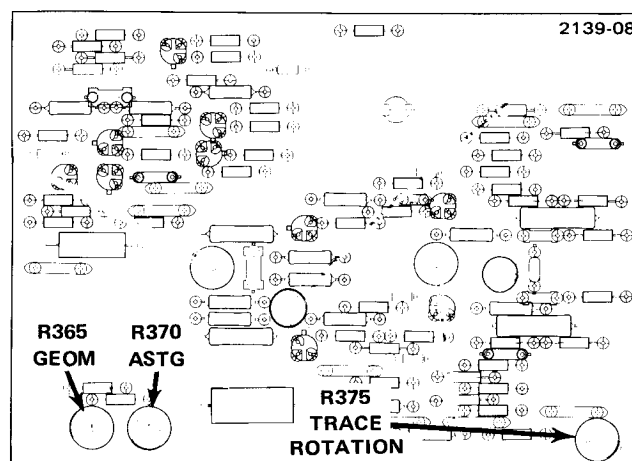

Fig. 5-3. Location of Geom, Astig, and Trace Rotation adjustments (Horizontal circuit board).
- ADJUST—Astig R370 and FOCUS control together, to obtain the best defined spot display. See Fig. 5-3 for adjustment location.
- ADJUST—ROTATION (Trace) R375 to align the trace with the center horizontal graticule line. See Fig. 5-3 for adjustment location.
f. ADJUST—Geom R365 for minimum bowing or tilt of the trace display at the left and right edges of the graticule. Adjustment may have to be compromised to obtain less than .1 graticule division bowing and tilt everywhere within the graticule area. See Fig. 5-3 for adjustment location.